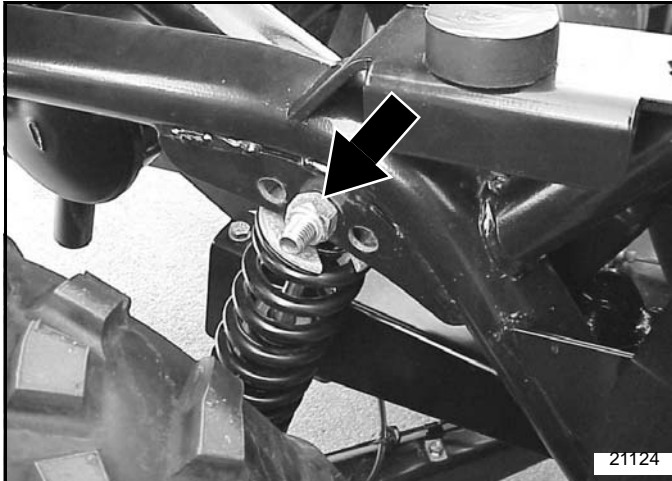

Figure 20
2. Refer to Figure 20. Locate shock absorber's top three mounting holes.